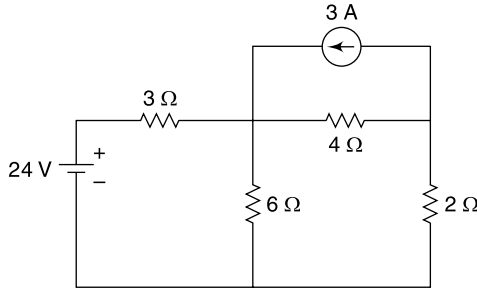

Fig. 4.105 Circuit of Ex. 4.77
4.77 Find the current through the $2\ \Omega$ resistor in Fig. 4.105 using Norton's theorem.